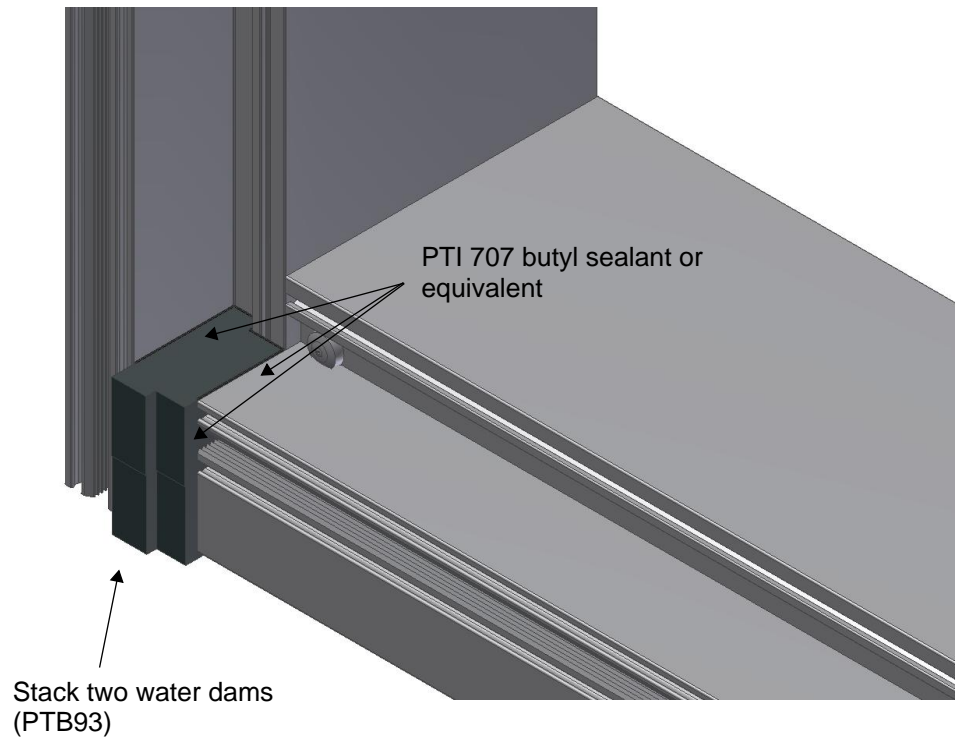

Figure 21: Install water dams and apply sealant.
- Stack a pair of water dams (PTB93) between the horizontal and vertical mullions as shown in Figure 21.